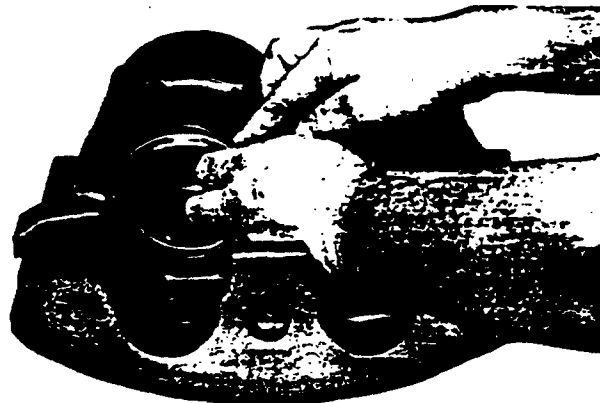

Figure 8-53. Inspecting Boots for Cracks and Cuts.
2. Wipe the inside of the caliper, clean and check the dust boots for cuts, cracks or other damage. If damage is noted the caliper should be overhauled. See Figure 8-53.